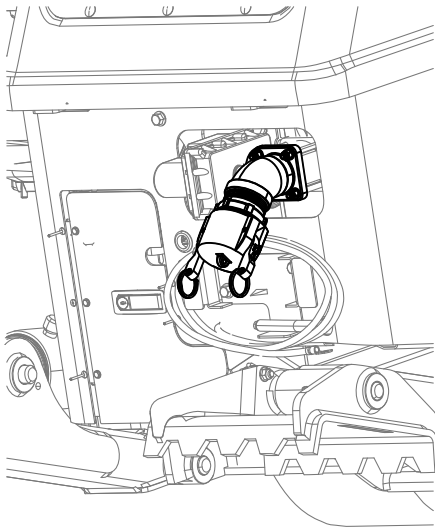

Figure 62
1. Raise the cam-lock levers on the pump-inlet cap and remove the cap (Figure 62).